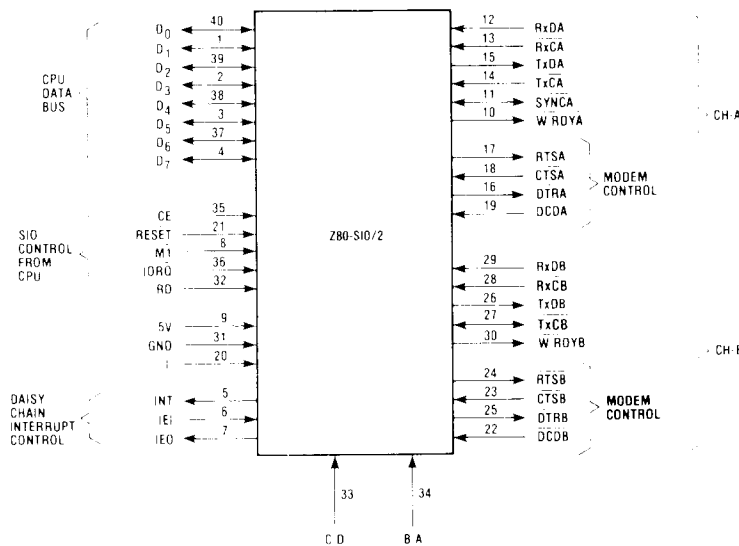

Figure 3. Z80-SIO/2 Pin Configuration
- Z80-SIO/2 sacrifices  $\overline{\text{SYNCB}}$  and keeps  $\overline{\text{TxCB}}$ ,  $\overline{\text{RxCB}}$  and  $\overline{\text{DTRB}}$  (Fig. 3).